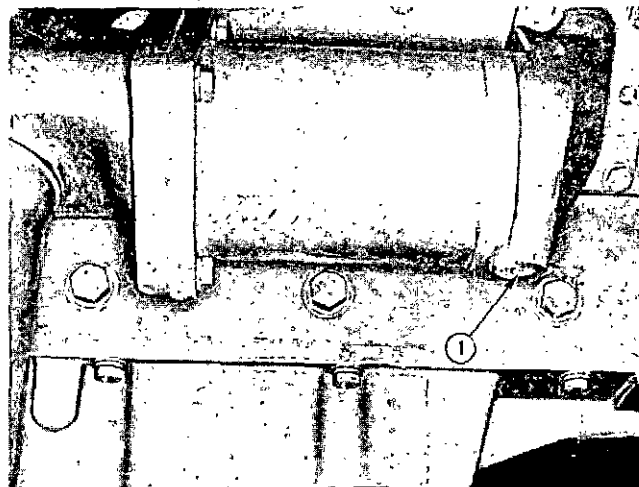
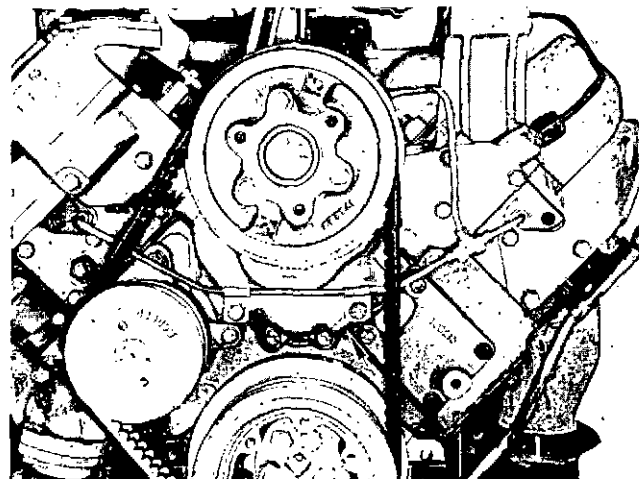

Fig. 2-6, V10819. Coolant drain point (oil cooler side)
Fig. 2-8, V10821. Coolant drain point (front water crossover)
2. To completely drain cylinder block and cylinder heads open petcock (1, Figs. 2-6 and 2-7) or remove drain plug on water header plate and on lubricating oil cooler, when used. If an air compressor, heat exchanger or other "water-cooled" accessory is used, open petcock on unit. If using a front water crossover, open petcock and drain. Fig. 2-8. Failure to drain any of these units may cause serious damage in freezing weather.